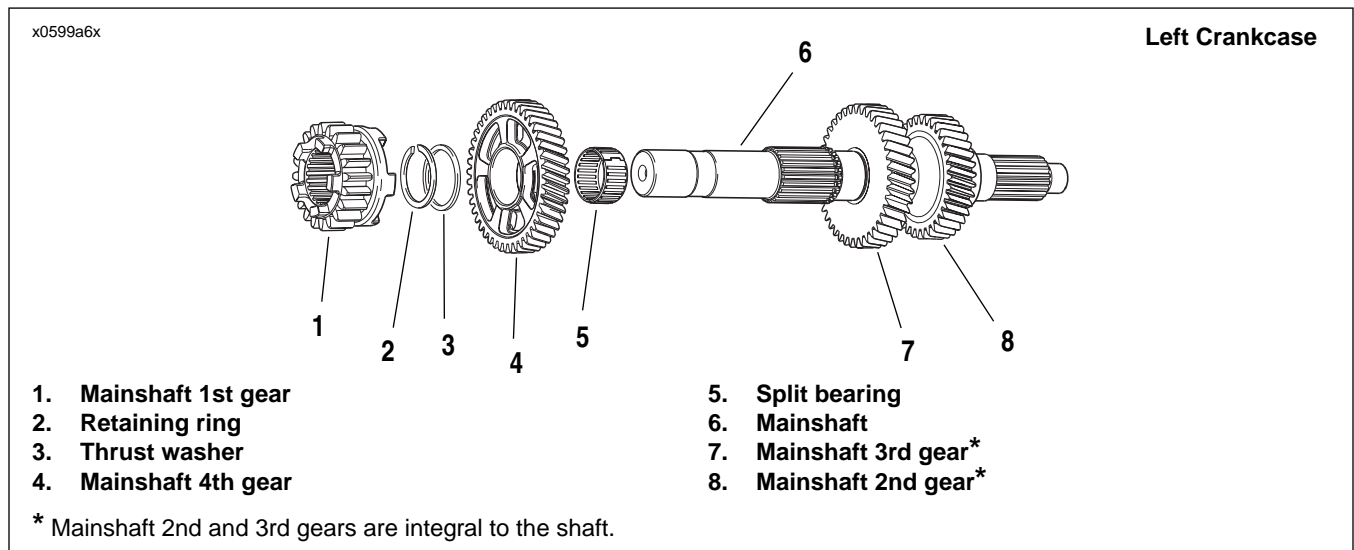

Figure 6-62. Transmission Mainshaft Assembly Once Removed from Left Crankcase/Disassembly
- See Figure 6-62. Remove 1st gear (1).
- Use RETAINING RING PLIERS (Part No. J-5586) to expand and remove retaining ring (2). Discard retaining ring.
- Slide thrust washer (3) off end of mainshaft.
- Remove 4th gear (4) and split bearing (5). Discard bearing.